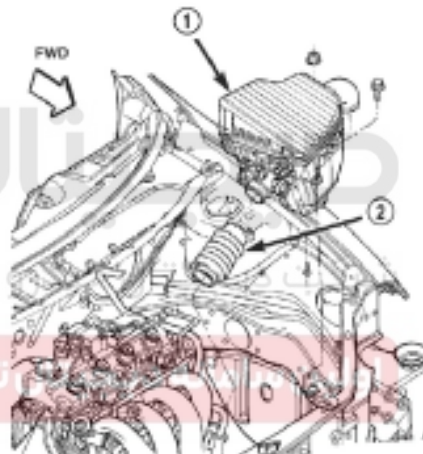

Figure 3-111 Disassembly/assembly of air cleaner assembly
(8) Disassemble air cleaner/battery (Figure 3-111):